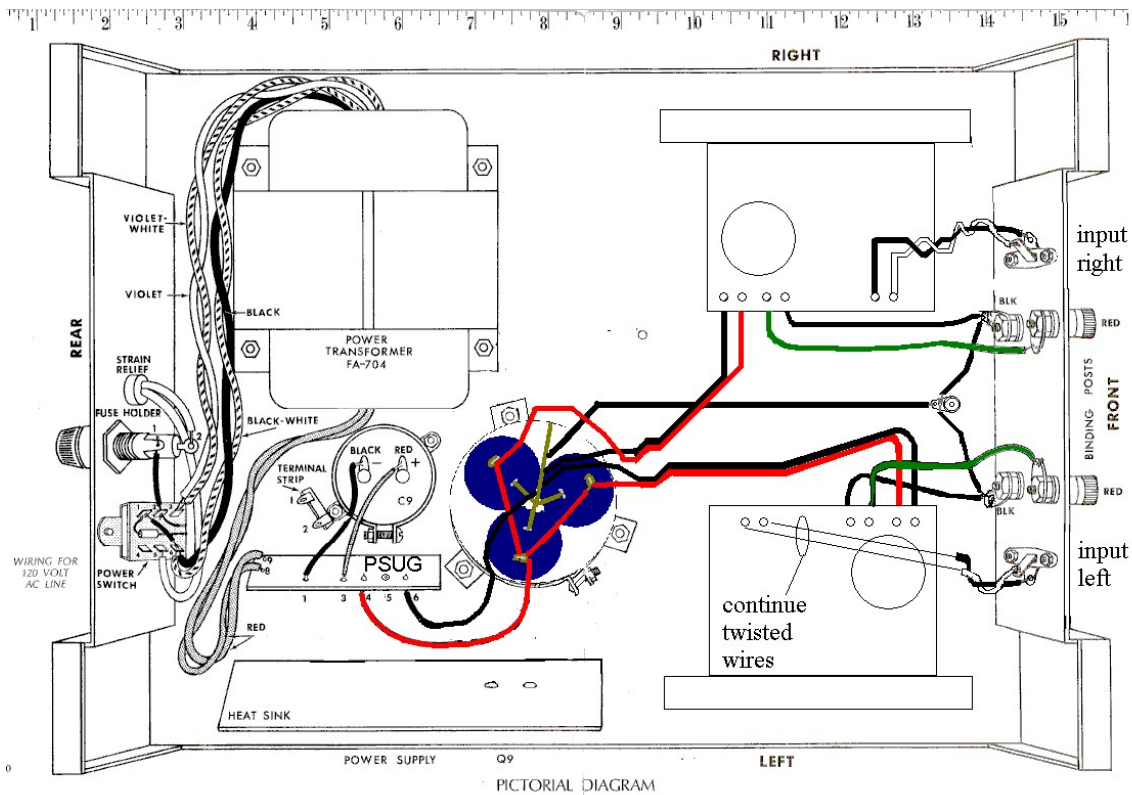

Figure 28-completed wiring
Please refer to Figure 28.
4. Wrap the red wire of the first red-black wire around one of the C12 terminals as shown in Figure 28.
5. Wrap the red wire of the second red-black wire around the other of the C12 terminals as shown in Figure 28.
Both red speaker output terminals should have 16 AWG white wires still connected. (For clarity, this is shown in green in Figure 28.)